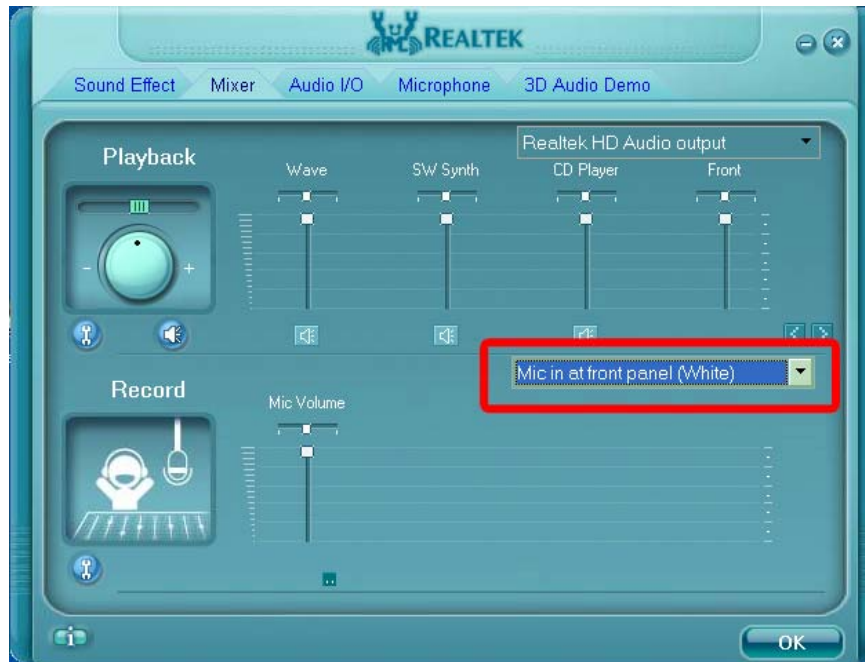

Figure B-5: Enabling the Digital Microphone Function
Step 7: From the dropdown list box in the **Record** section, select **Mic in at front panel (White)** (**Figure B-5**).